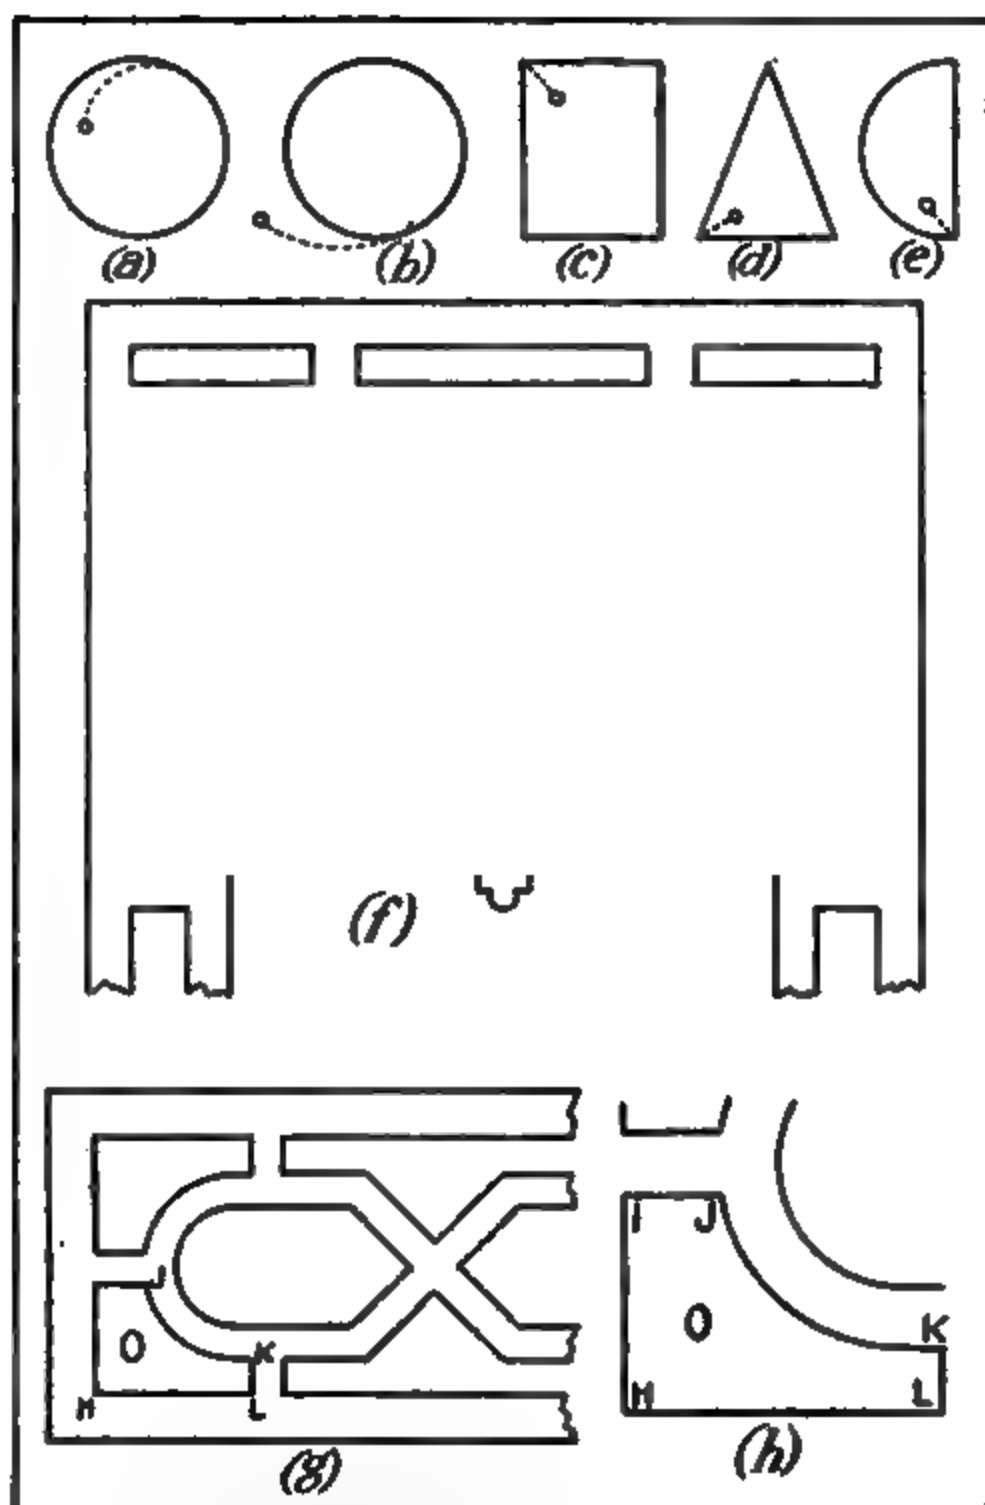

Fig. 139.—(a, b, c, d, e) Different forms ; where to start. (f) A delicate neck. (g) Cutting openings at end of a long fret. (h) Enlarged detail of g.
*Circles and Ovals.*—When cutting these the saw approaches the circumference at a tangent. Thus, an interior circle or oval will be taken as Fig. 139, *a*, and an exterior one as Fig. 139, *b*. When beginning to cut a square, triangle, or any other form which has no projecting point from which to start, the saw may begin at a corner, as Fig. 139, *c*, *d*, and *e*.
Fragile parts, however, are often in danger when a heavy piece of loose waste is left hanging to a delicate neck of wood. Fig. 139, *f*, illustrates this. The fret may be quite strong when finished, but the parts shown shaded may easily be broken when cutting. If the saw begins at X and goes in the direction of the arrows round to Y and Z, the shaded part has a big piece of waste hanging to it. The leverage of this will cause extra friction as the saw goes on from Z to X, and a jerk might break the narrow neck of wood which remains. The safe plan is to begin by cutting the part from Z to X; then go round by the arrows to Y and on to Z. In this way the fragile work is first separated from the heavy waste part. When large openings are being sawn, it is a good plan to release part of the waste (that is, cut it through) before the whole is circumscribed.
*Large Cutting.*—At first it may appear to the worker that he cannot cut a piece larger than the “swing” of his saw—that is, the length from saw-blade to back of arms. It is, however, quite possible (though not always convenient) to cut work nearly twice this length. A treadle fret-saw has usually a swing of about 18 in., and we may suppose that Fig. 139, *g*, is the end of a fret 20 in. long. There will be no difficulty in cutting any of the openings except two or three at each end. Take, for instance, O (see Fig. 139, *h*). A start may be made at H, and the saw taken to I, J, K, and on to L. Here, if an attempt be made to turn the wood so that the blade faces H for its final lap, the far end of the wood will knock against the treadle-frame (or against the back arm of hand-frame in hand-cutting). To cut L H the saw has to be retraced to H, and the line taken the other way. To do an end opening like this the simplest plan is to begin at H and cut to L, then draw the blade back to H and proceed by way of I, J, and K to L. In large work the awkward openings may all be negotiated in this way. It ought to be said, however, that in large cutting the real difficulty is in conveniently handling a heavy board.